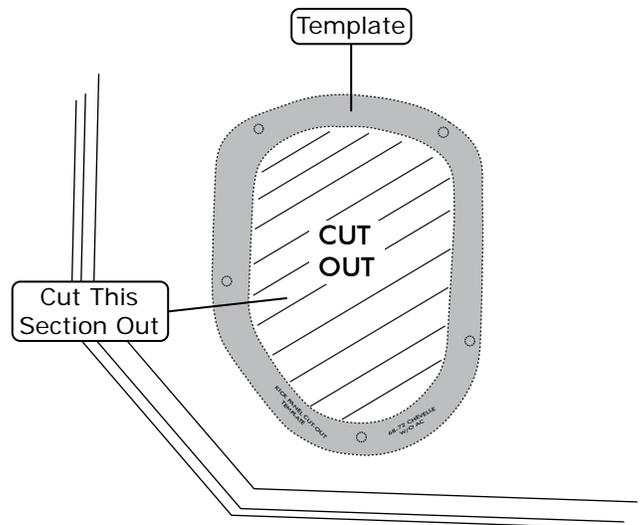

Figure 2a
3. Locate the template provided on Page 34. Place the template onto the kick panel as shown in Figure 2a, below.